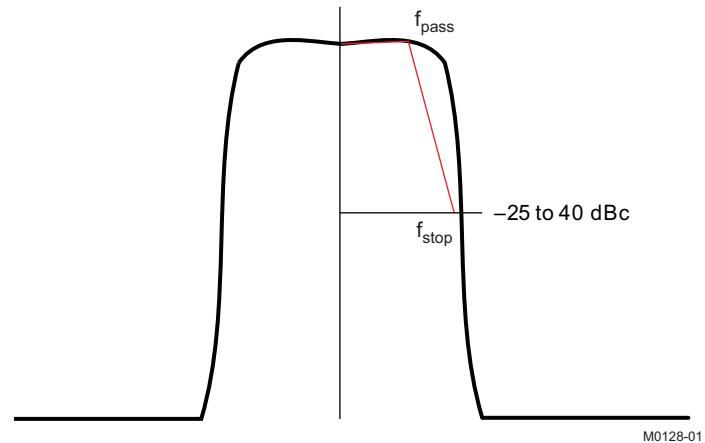
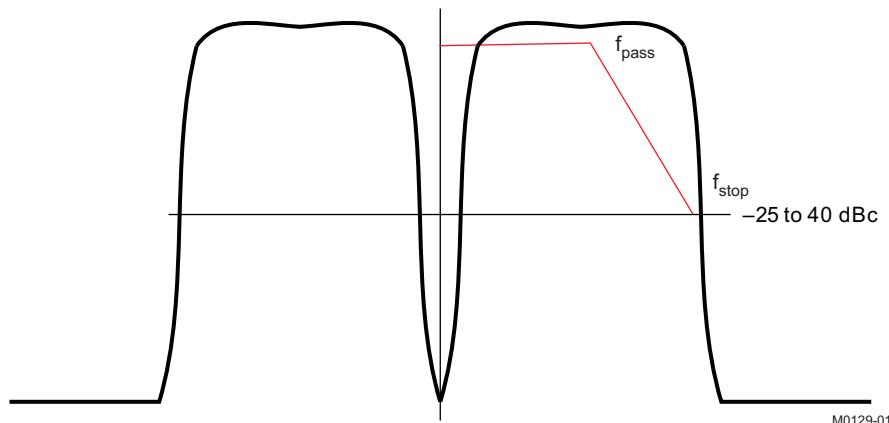
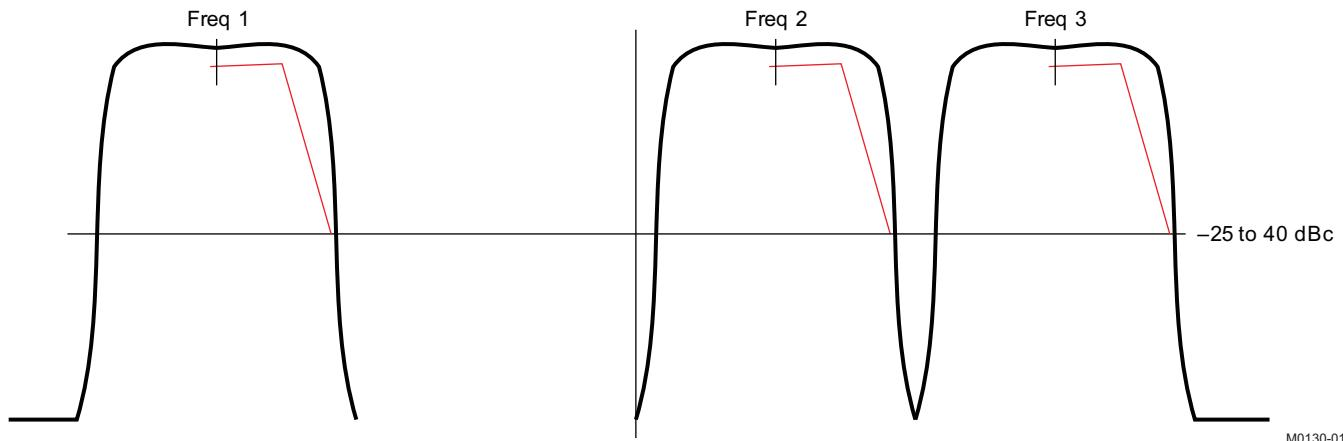
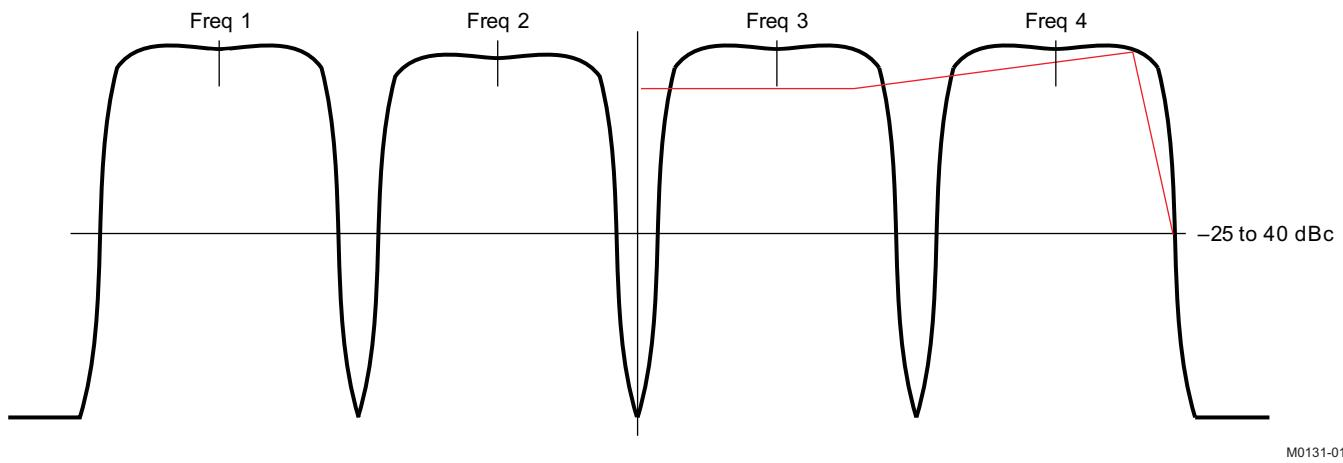

Figure 9. GC1115 Cancellation Filter Single-Carrier Design
Figure 10. GC1115 Cancellation-Filter Multicarrier Design Using Two Single-Carrier Filters
Figure 11. GC1115 Cancellation-Filter Asymmetric Multicarrier Design Using Three Single-Carrier Filters
Figure 12. GC1115 Cancellation Filter Design Using a Single Multiband Filter
- Single carrier at 0IF → real-coefficient, low-pass (or RRC) design (see Figure 9)
- Multiple carriers centered at 0IF → real-coefficient, low-pass design; filter is designed for composite bandwidth (see Figure 10 and Figure 11).
- Multiple carriers centered at 0IF that tend to distort carriers at different distortion levels can use multiband filter techniques to equalize the carrier distortions (see Figure 12).
The coefficients must be scaled so the center tap is 2047. The coefficients must be rounded and saturated to 2047 to -2048. Figure 9 is an example of a single-carrier cancellation filter design. Figure 10 is an example of a cancellation filter design for multiple carriers centered at OIF. Figure 11 is an example of a cancellation filter design for multiple carriers with frequency gaps. Figure 12 is an example of a cancellation-filter design for multiple carriers using a single, wide filter. Note that in this case, the filter places noise energy in the gaps between carriers.